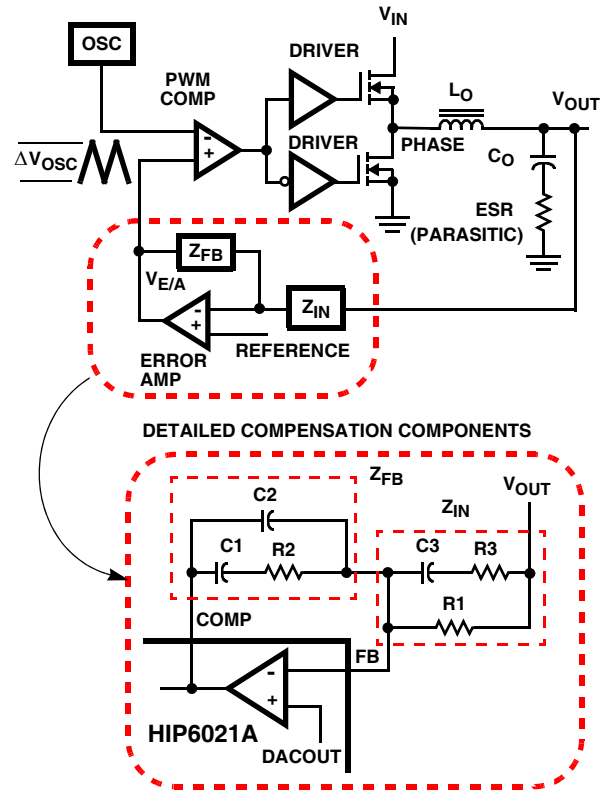
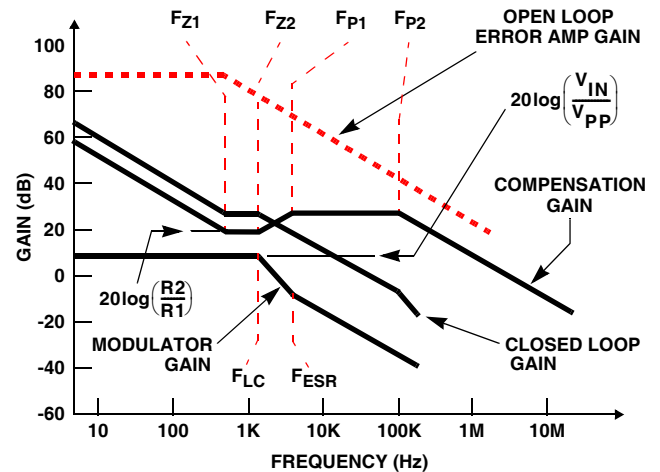

FIGURE 8. VOLTAGE-MODE BUCK CONVERTER COMPENSATION DESIGN
FIGURE 9. ASYMPTOTIC BODE PLOT OF CONVERTER GAIN
Figure 8 highlights the voltage-mode control loop for a synchronous-rectified buck converter. The output voltage (V_{OUT}) is regulated to the Reference voltage level. The reference voltage level is the DAC output voltage (DACOUT). The error amplifier (Error Amp) output ($V_{E/A}$) is compared with the oscillator (OSC) triangular wave to provide a pulse-width modulated (PWM) wave with an amplitude of V_{IN} at the PHASE node. The PWM wave is smoothed by the output filter (L_O and C_O).
Figure 9 shows an asymptotic plot of the DC-DC converter's gain vs frequency. The actual Modulator Gain has a high gain peak dependent on the quality factor (Q) of the output filter, which is not shown in Figure 8. Using the above guidelines should yield a Compensation Gain similar to the curve plotted. The gain. Check the compensation gain at F_{P2} with the capabilities of the error amplifier. The Closed Loop Gain is constructed on the log-log graph of Figure 9 by adding the Modulator Gain (in dB) to the Compensation Gain (in dB). This is equivalent to multiplying the modulator transfer function to the compensation transfer function and plotting the gain.